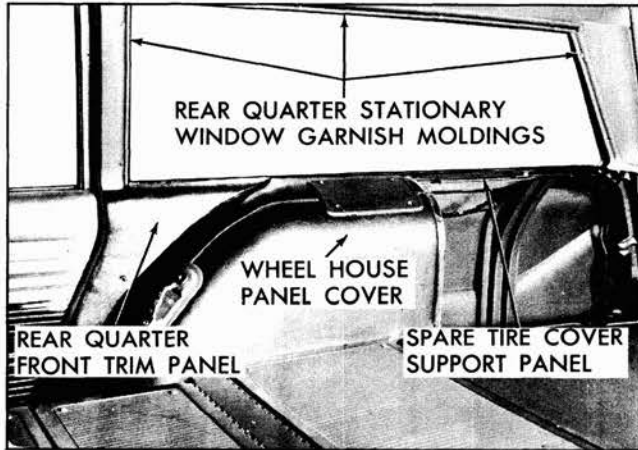

Fig. 4-13 Right Rear Quarter Trim
2. Remove rear quarter front trim panels, rear quarter rear trim panel, rear quarter wheelhouse panel cover, spare tire cover, and spare tire cover support (Fig. 4-13).
3. Remove rear quarter stationary window channel lower retainers (one (1) required for right side, two (2) required for left side), (Fig. 4-13).